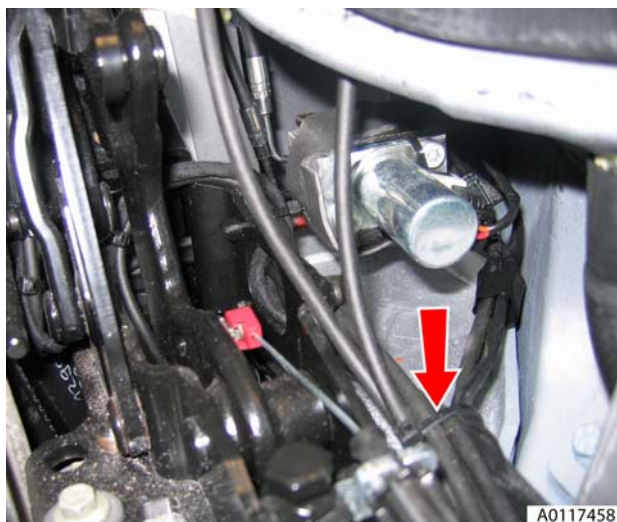

Figure 12
20. Remove cable ties and remove pipe from vehicle (see Figure 12).